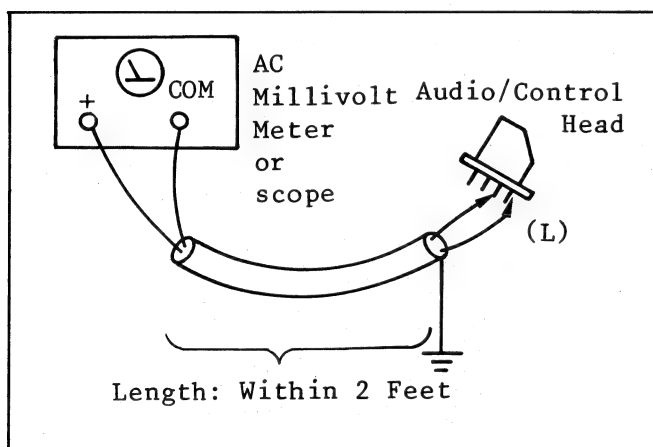

Fig. E10
3. Connect the AC Millivolt Meter or scope as shown in Fig. E10.